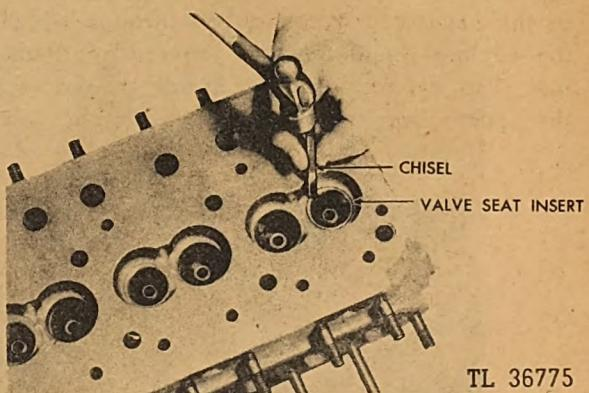

Fig. 123. Removing Exhaust Valve Seat Insert
*f. Replacing the Exhaust Valve Inserts.* The exhaust valve seat insert is held in place by a shrink fit. To remove the insert, center punch the insert and drill. Be careful not to drill through into the valve seat insert recess. With a small cold chisel, carefully break through the drilled holes and remove the insert. (See Figure 123.) Be careful not to mar the face of the cylinder head.